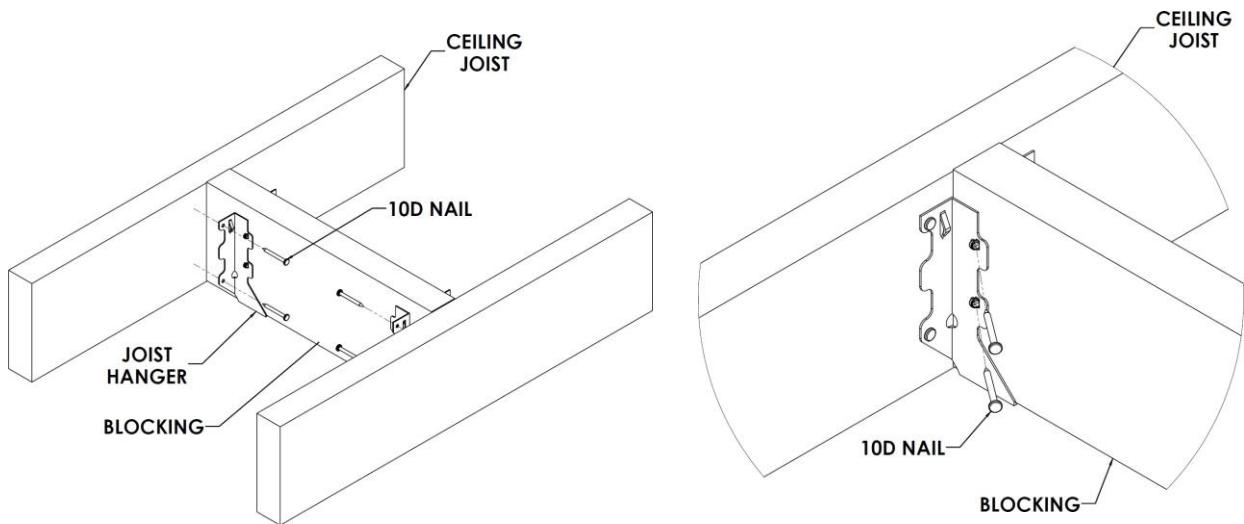

Figure 176: **Joist Hangers and Nails**
6. On both sides of the blocking, use appropriately sized joist hangers (to match the wood blocking dimensions) with 10D nails to attach the blocking to the joists, as shown in Figure 176.